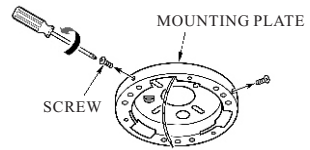

FIG.1
1. Remove 3 screws on mounting plate. (see fig.1)